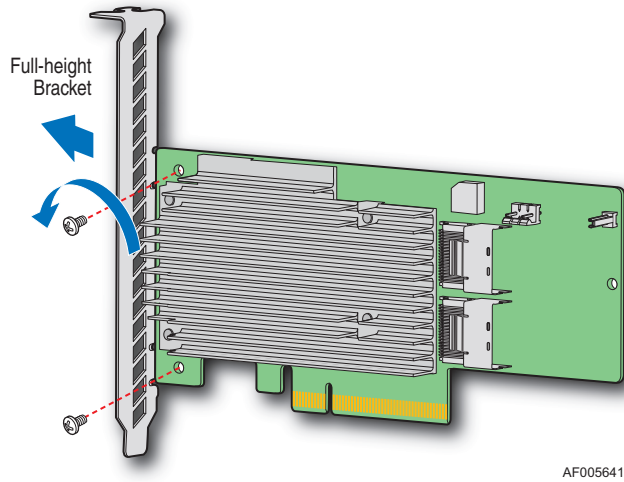

Figure 1. Changing the Bracket
3. If necessary, change the bracket on the RAID module to fit the height of the server system (see Figure 1).
3. Insert the four barrel standoffs into the matching holes in the server board. To locate the matching module card slot on your server board, see your server board documentation. The Intel® Server Board S2600IP is shown for illustrative purpose. Actual standoff hole locations could be different (see Figure 1).